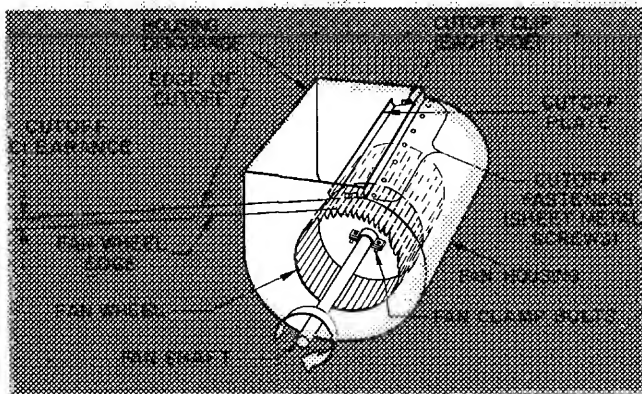

Fig. 29 — Fan Details
4. Remove cutoff plate per Fig. 29 and remove fan wheel thru housing discharge.